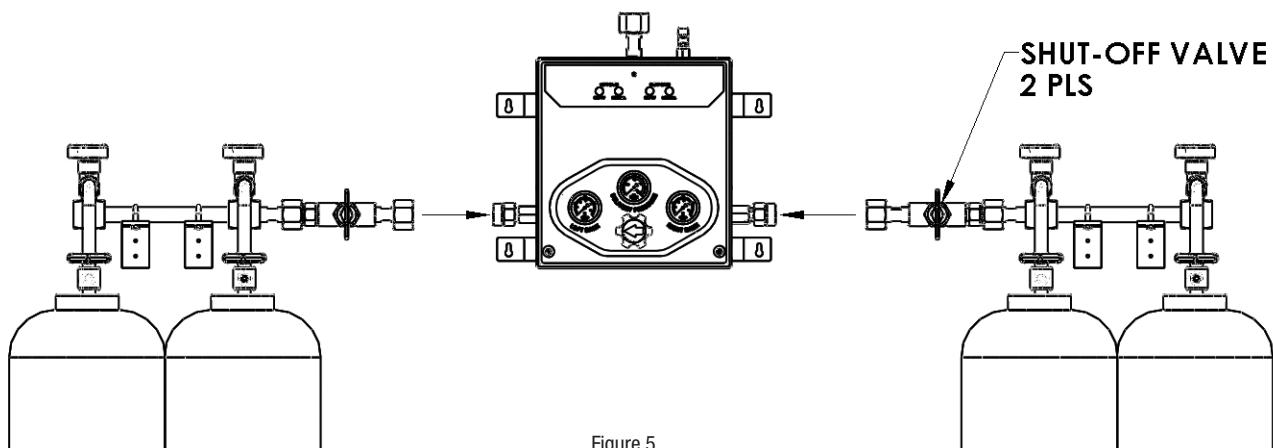

Figure 5
- Align the right and left header bar with the right and left inlet connections to the box. See Figure 5 for an illustration of this. Make sure that the header bars are level and perpendicular to the box. Attach the header mounting brackets to the wall with appropriate hardware (not included). Assemble the header outlet connection to the control box on both the right and left side. Wrench-tighten all connections. Tighten the U-bolts on the header mounting brackets to secure the headers in place.
- If equipped, close the master shut off valves for both the right and left side. Refer to Figure 5 for the location of the master shut off valves.